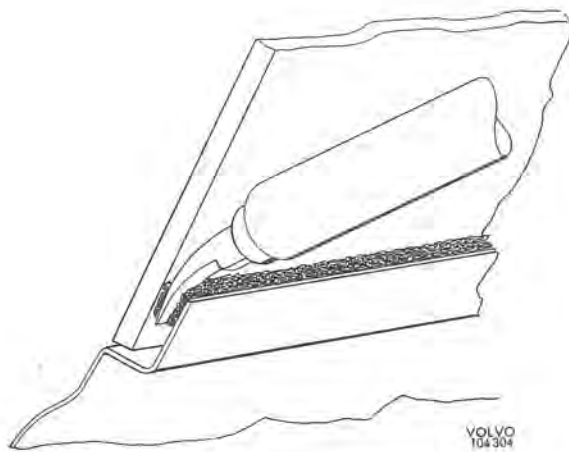

Fig. 8-27. Removing windshield
5. Cut the windshield loose with a warm soldering iron. Insert the point of the iron in between the windshield and the body, from the inside of the vehicle, see Fig. 8-27. Then draw the soldering iron all round the windshield. The windshield can now be pressed out by hand. Cut off any remaining strands with a knife.